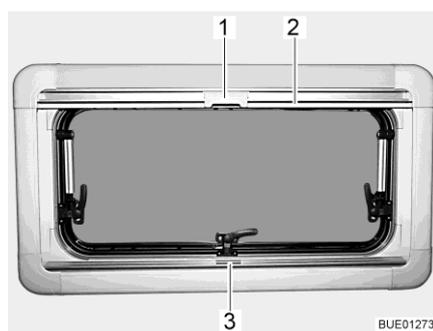

Fig. 98 Hinged window
- Grip the Roman shade in the centre of the holding bar (Fig. 98,3), pull it from the bottom to the top and then release it at the desired height. The Roman shade will stay at this height.
- Pull the insect screen down using the holding bar (Fig. 98,2), until it touches the holding bar of the Roman shade (Fig. 98,3).
- Clip the catch (Fig. 98,1) on the insect screen into the handle of the Roman shade.
- Push the catch (Fig. 98,1) on the insect screen inwards.
- Move the insect screen back slowly on the holding bar (Fig. 98,2).